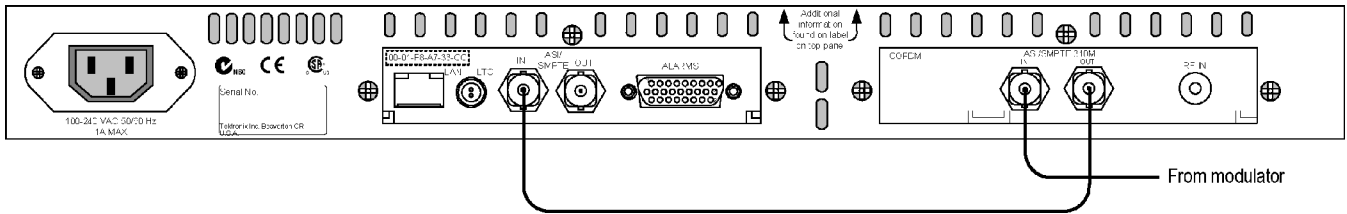

Figure 26: Monitoring ASI and RF signals - QAM (Annex B, new version), 8PSK, 8VSB, and COFDM interfaces only
- b. Connect the ASI cable supplied in this kit between the ASI/SMPTE310M Out connector on the interface card to the ASI In connector on the Transport Stream Processor card (see Figure 26).